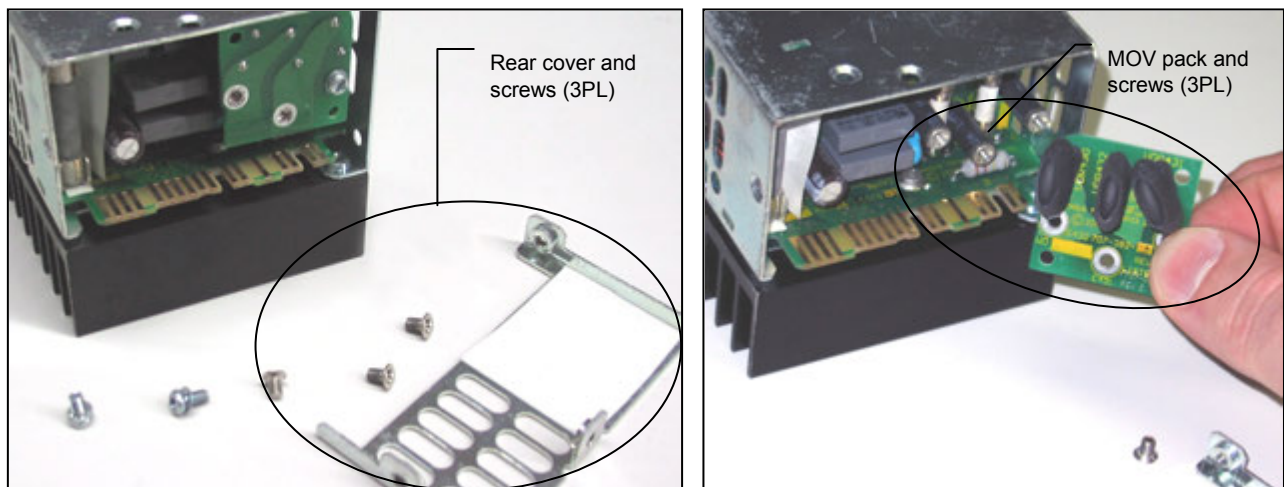

Figure 9—Showing MOV removal and replacement
3. Turn the module around to face the back of the unit and remove the three (3) screws securing the rear grill/cover. Remove the rear cover. See Figure 9: